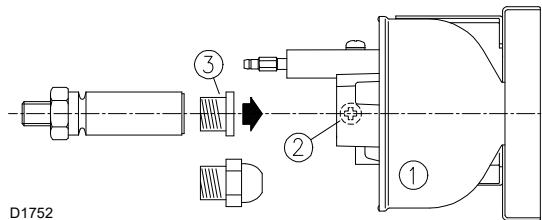

Fig. 11
- Loosen the screws 2) and take out the flame stabiliser unit 1), remove the plastic plug 3) and fit the nozzle (Fig. 11).